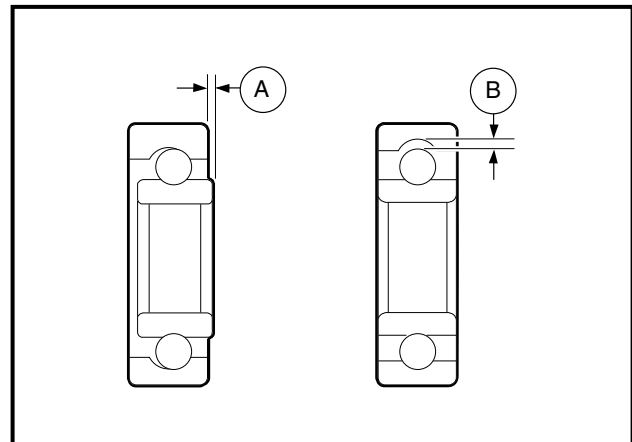

FIGURE 10-54
2. Inspect all bearings by spinning them by hand. Check the bearings for excessive axial (A) and radial (B) play (**Figure 10-54, Page 56**). Replace bearings if they do not spin smoothly, if they are noisy, or if they have excessive play. Replace bearings if they are rusted, worn, cracked, pitted, or discolored.